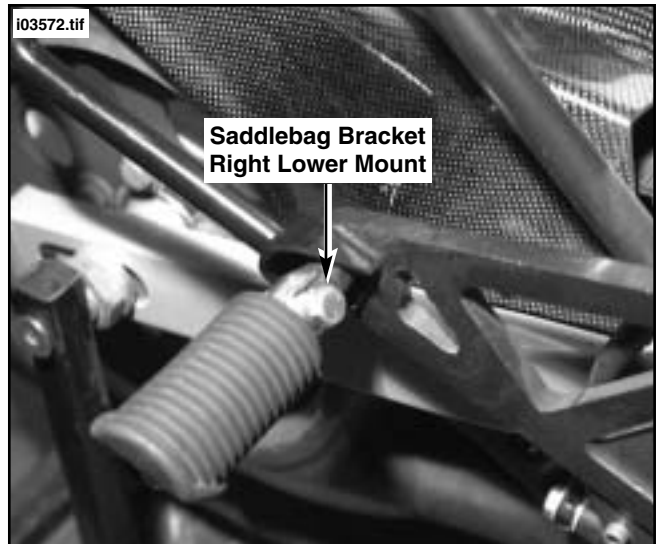

Figure 4. Re-install Passenger Footpegs (Right Shown)
- e. See Figure 4. Obtain right footpeg assembly removed in Step 6. Place a few drops of Loctite (Red) to stud threads and thread footpeg assembly onto stud, over saddlebag bracket lower mounting rail. Tighten assembly to 18-20 ft-lbs (24-27 Nm). Repeat Step for the left footpeg assembly.